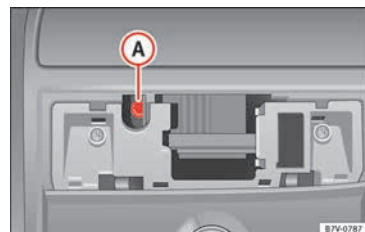

Fig. 16 Allen bolt to close the panoramic sliding sunroof
- Insert a standard 4 mm Allen key¹⁾ into the Allen bolt » Fig. 16 (A).